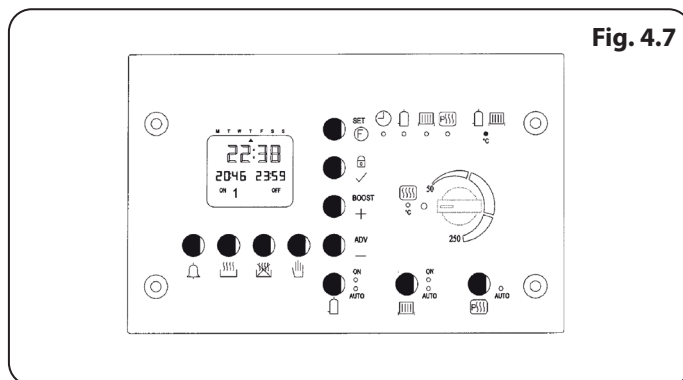

Fig. 4.7
1. Press the "alarm" button and a "00 ALARM" will flash on the display (**Fig. 4.7**).